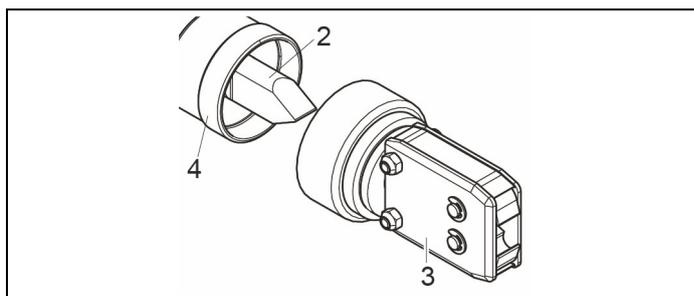
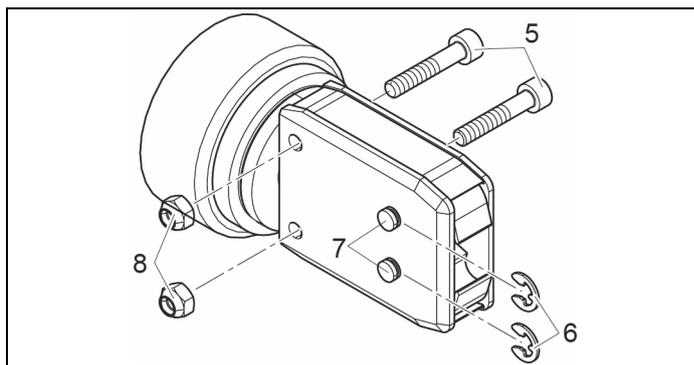
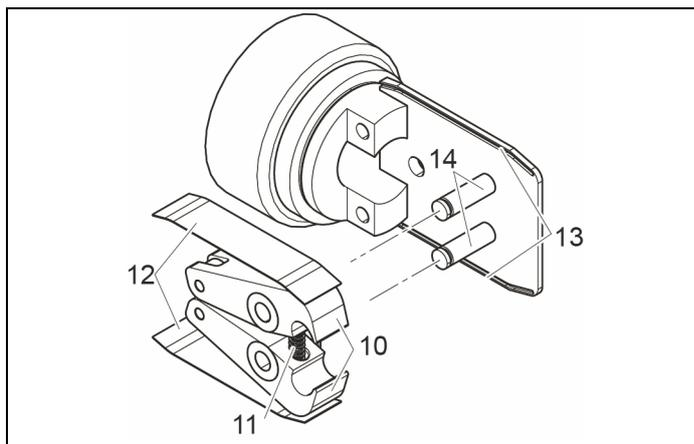

Fig. 25: Disconnecting the pincer head from the clamp pincer
Fig. 26: Dismantling the pincer head
Fig. 28: Fitting the pincer jaws
3. Disconnect pincer head (Fig. 25/3) from the clamp pincer (Fig. 25/4).
The plunger (Fig. 25/2) stays in the clamp pincer (Fig. 25/4).
4. Remove two lock washers (Fig. 26/6) on pincer head (Fig. 25/3).
Do not push back pin (Fig. 26/7)!
5. Unscrew two hexagon nuts (Fig. 26/8) from the hexagon bolts (Fig. 26/5).
7. Remove compression spring (Fig. 28/11), cover plate (Fig. 28/12) and pincer jaws (Fig. 28/10).
8. Grease and assemble replacement pincer jaws (Fig. 28/10) and compression spring (Fig. 28/11) from the pincer jaw replacement kit and pin (Fig. 28/14) with special lubricant RENOLIT LX-EP 2 (RENOLIT Duraplex EP 2).
9. Reassemble in reverse order using new lock washers (Fig. 26/6).
10. Check mobility of pincer jaws (Fig. 28/10).
The plunger (Fig. 25/2) must lie between the two pincer jaws (Fig. 28/10).